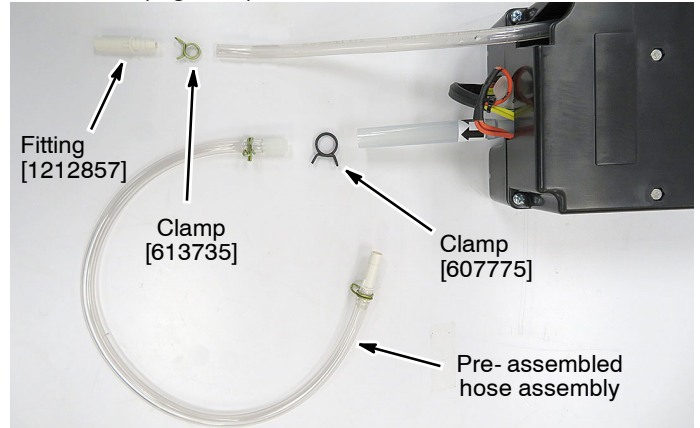

Fig. 3
2. Install the pre- assembled hose assembly, hose fitting and clamps to the ec- H2O module outlet hose as shown (Figure 3).